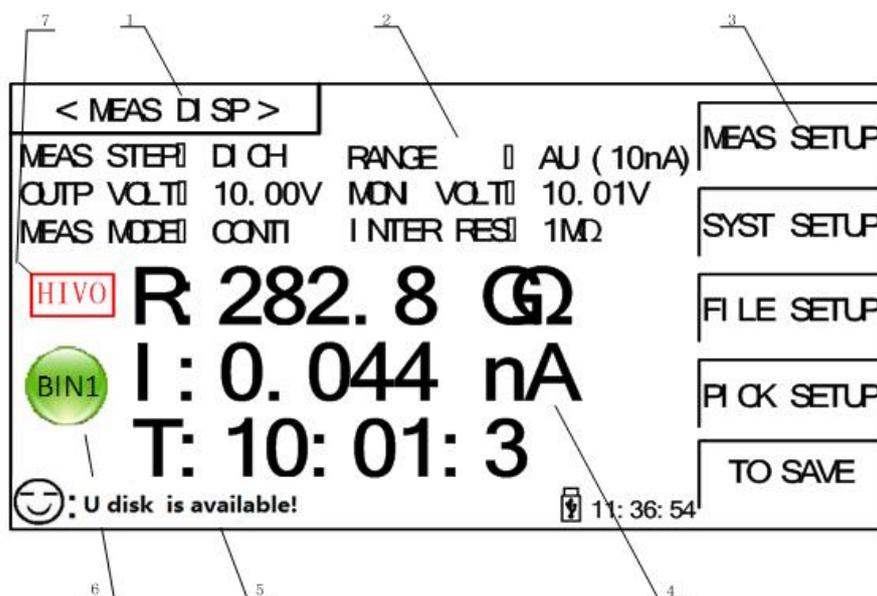

Figure 2-5 ST2683A Main Display
- Use [MEAS], [SYSTEM] or [FILE] or soft keys to enter into the page required to enter. (Refer to figure 2-5)